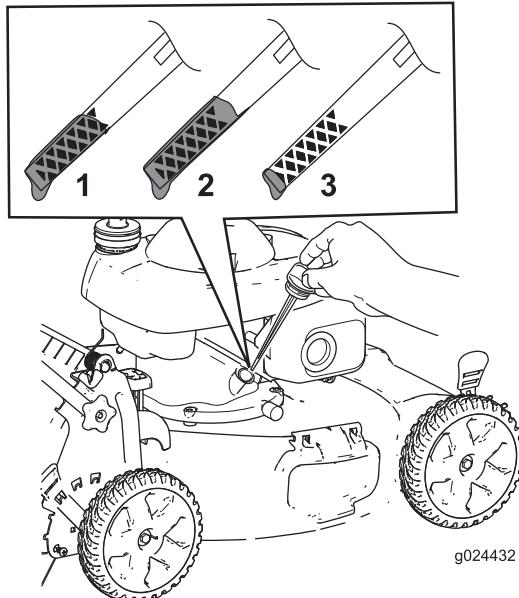

Figure 6
2. Remove the dipstick by rotating the cap counterclockwise and pulling it out (Figure 6).
4. Read the oil level on the dipstick (Figure 6).